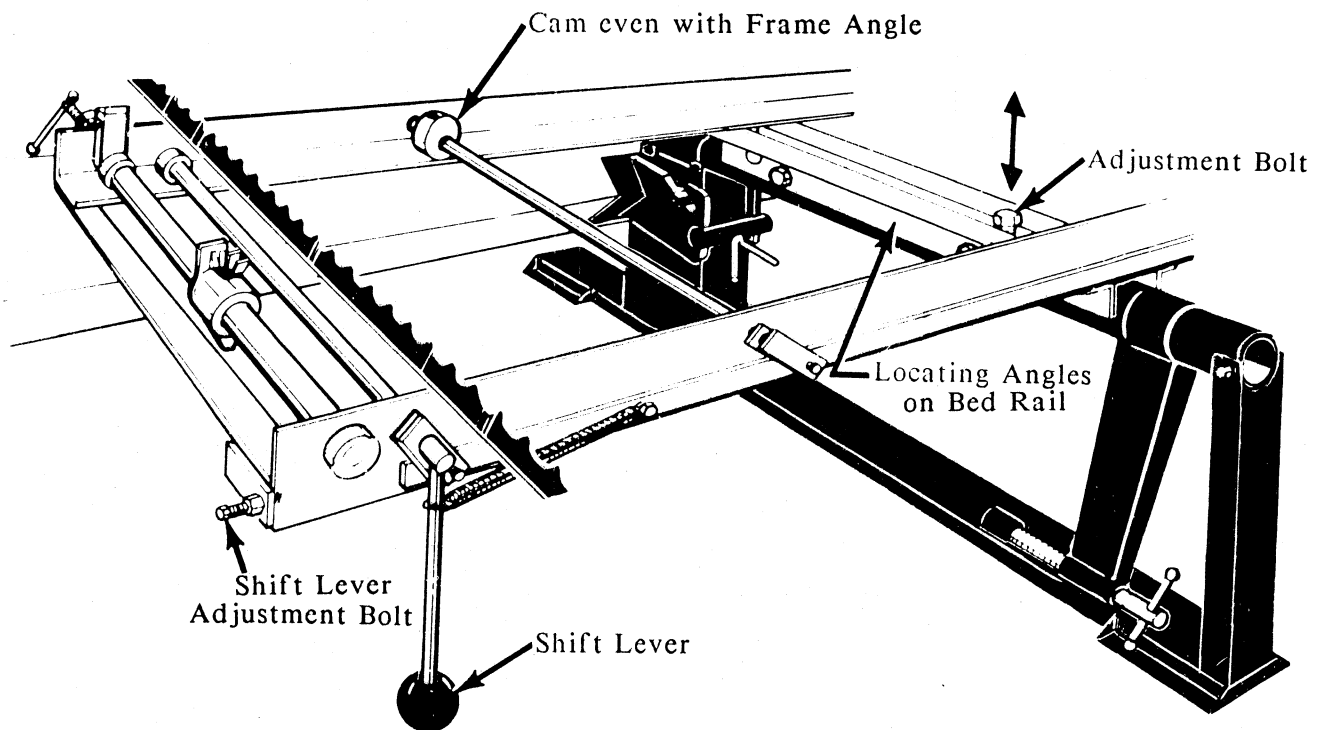

FIGURE 1
2. When using the option to cut shingles, or as a resaw brace, you will need to align the frame parallel to blade. To do this, move the blade carriage over the front bed rail and lower until the blade touches the frame. Use the adjusting bolt, if necessary, to level the frame to the blade (See Figure 1). Repeat over rear bed rail.